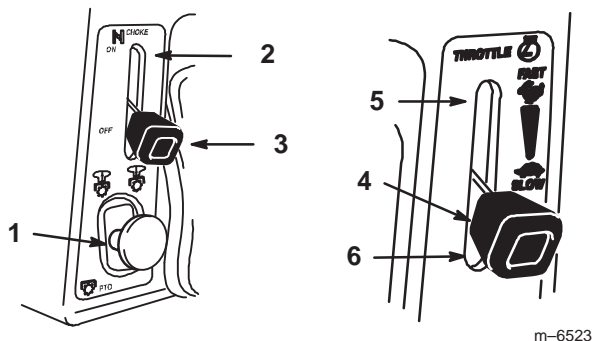

Figure 4
3. Push the PTO (power take off) to the off position (Fig. 4).
4. Move the choke lever to the on position (Fig. 4).
5. Move throttle lever to the fast position (Fig. 4).
- After the engine starts, move the choke lever to off (Fig. 4). If the engine stalls or hesitates, move the choke lever back to **on** for a few seconds. Then move the throttle lever to desired setting. Repeat this as required.
- Push the PTO (power take off) to off (Fig. 4).
- Move the throttle lever between half and full throttle (Fig. 4).